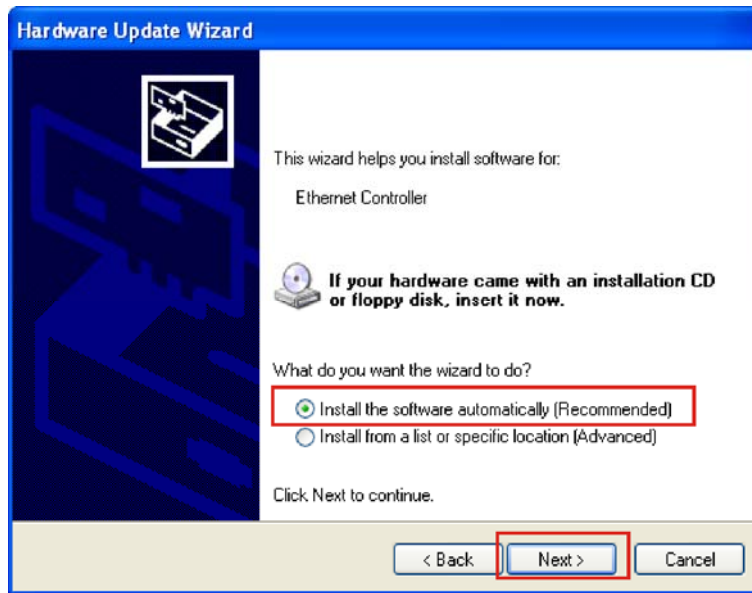

Figure 6-19: Search Windows Update Prompt
Step 7: The automatic driver search prompt appears (Figure 6-19).
Step 8: Select “Install the software automatically (Recommended),” and click **NEXT** to continue (Figure 6-19).